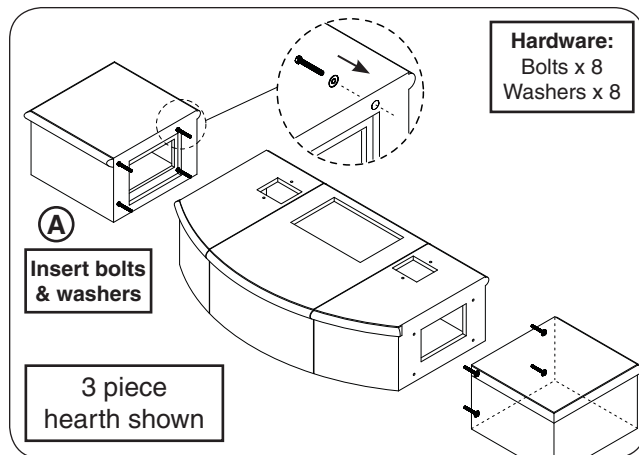

Fig. 17-1 Assemble hearth - arrange (if required)
2. Arrange the hearth pieces in their proper position. Then insert the bolts and washers into the outer pieces of the hearth as shown in Fig. 17-1.